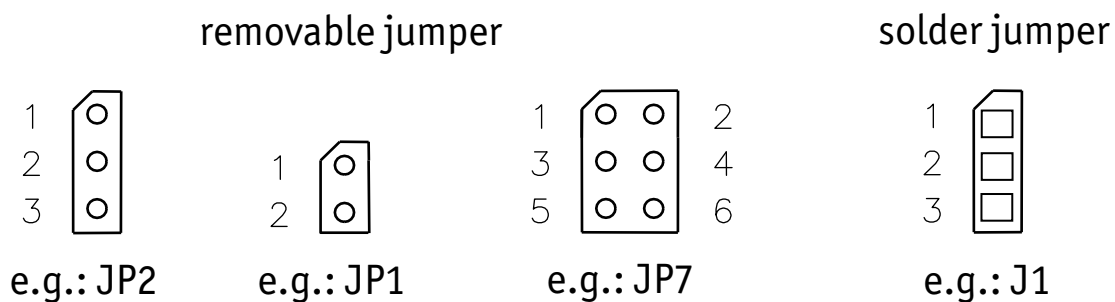

Figure 20: Typical Jumper Numbering Scheme
The phyCORE Carrier Board comes pre-configured with several removable (JP) and soldered (J) jumpers. The jumpers allow the user flexibility in configuring a limited number of features for development purposes. Table 43 lists the jumpers, their default positions, and their functions in each position. Figure 20 depicts the jumper pad numbering scheme for reference when altering jumper settings on the development board.